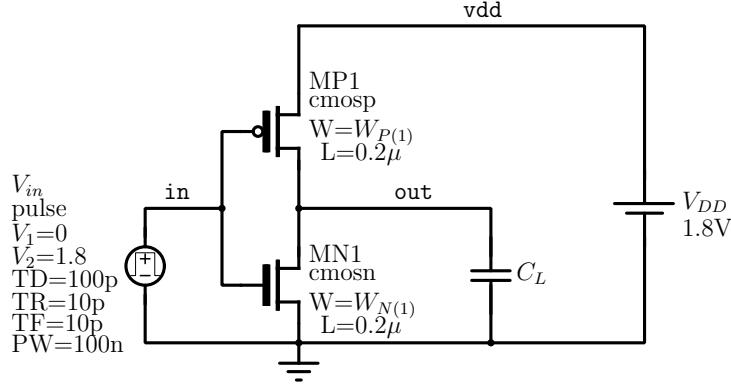

Figure 4.2. Electrical Schematic for Procedure (b).
- Measure  $T_{PHL}$  and  $T_{PLH}$  of staged buffer and calculate the latency  $\mathcal{L}$  using (8). Record the result in Table 5.4 (1st column)
- Write the netlist of the circuit given in Figure 4.2 to inspect the transient response of single inverter circuit.